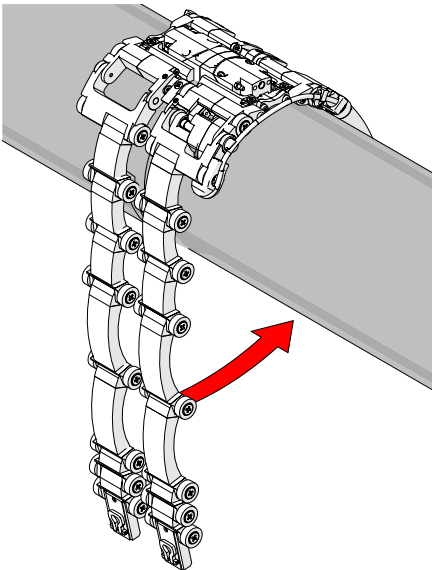

Fig. 38 - Wrap scanner around pipe/tube
8. Wrap the scanner around the pipe or tube (Fig. 38).